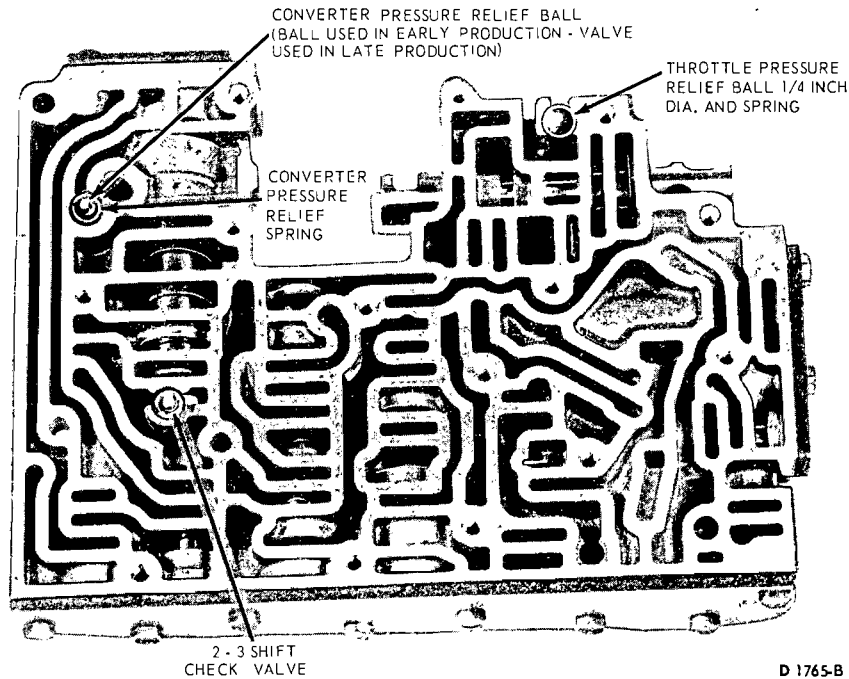

FIG. 47—Converter Pressure Relief Valve, Throttle Pressure Relief Valve, and 2-3 Shift Check Valve Locations
16. Place the valve body on a clean surface with the passage side facing up. Place the converter relief valve spring in its bore. (Fig. 47). Coat the converter relief valve check
ball or valve with vaseline and place it on top of the spring. Place the 2-3 shift check valve ball in its cavity. Place the throttle pressure relief valve spring in its bore (Fig. 47). Coat the throttle pressure relief valve check ball with vaseline and place it on top of the spring.